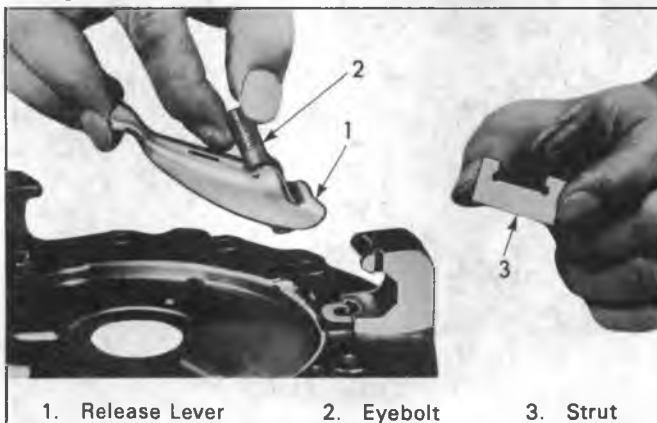

Fig. 7E--Installing Lever
2. Assemble lever, eyebolt and pin, holding eyebolt and lever as close together as possible and with the other hand grasp strut as shown in figure 7E.